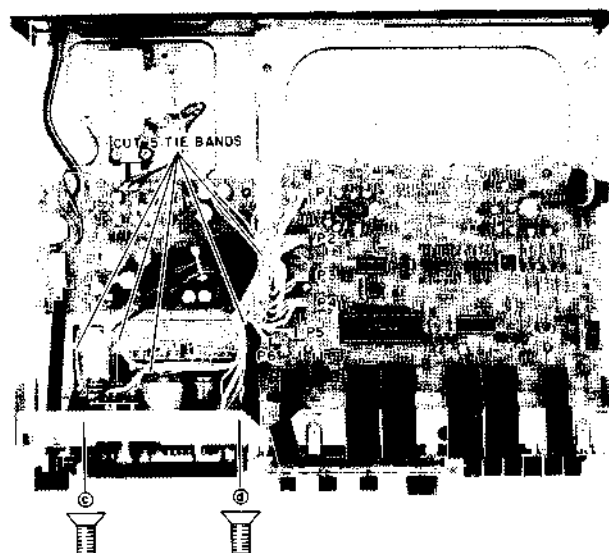

Fig. 4-4
- 2) Remove the six connectors P1—P6 from the SYS-CON PCB. Remove mechanism block securing screws ④ and ⑤. (See Fig. 4-4.)